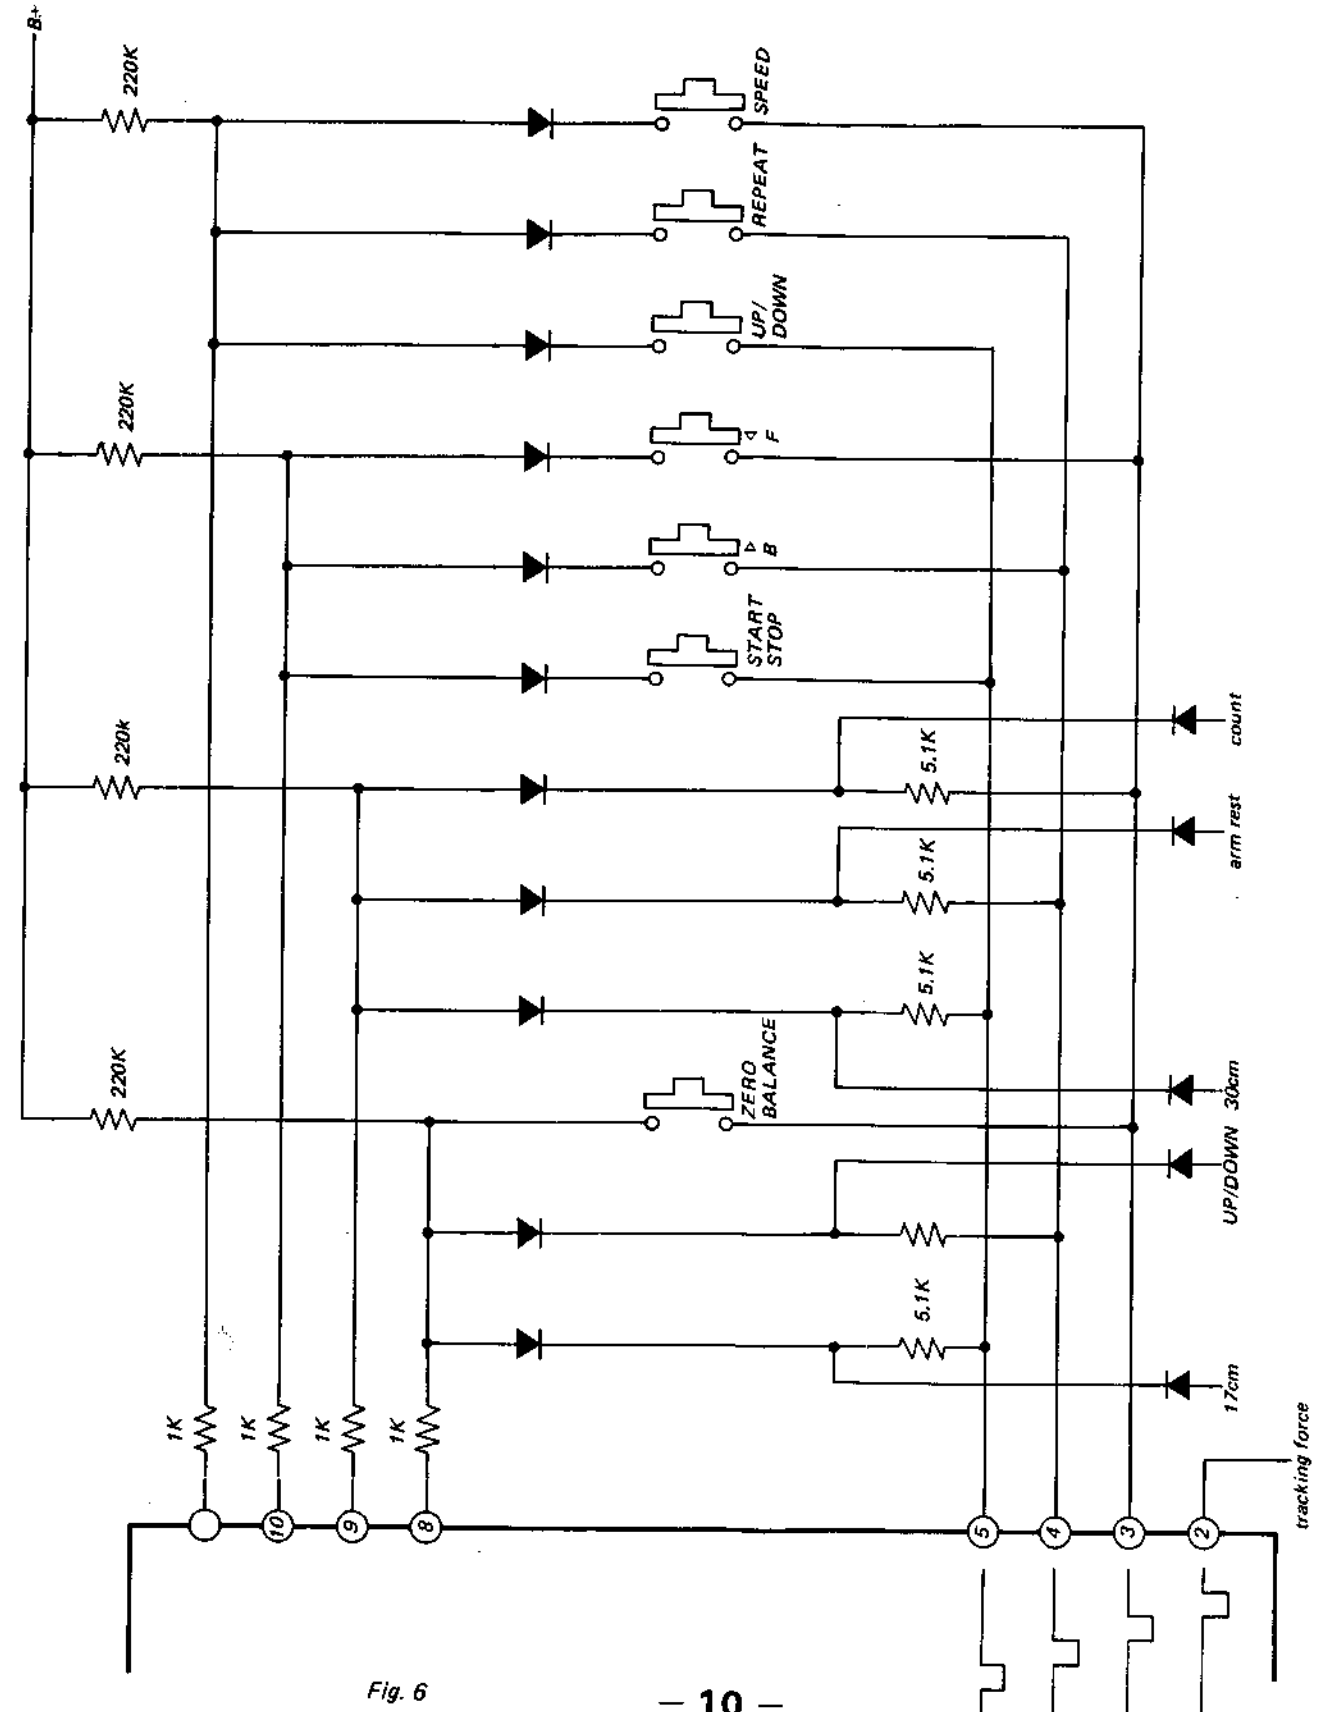

Fig. 6
Figure 6 shows key input
Figure 6 shows part of the key input circuit. ② - ⑤ are input pins. When pins ② - ⑤ are made low in order, the microcomputer program controls the state depending on the state of pins ⑧ - ⑪.